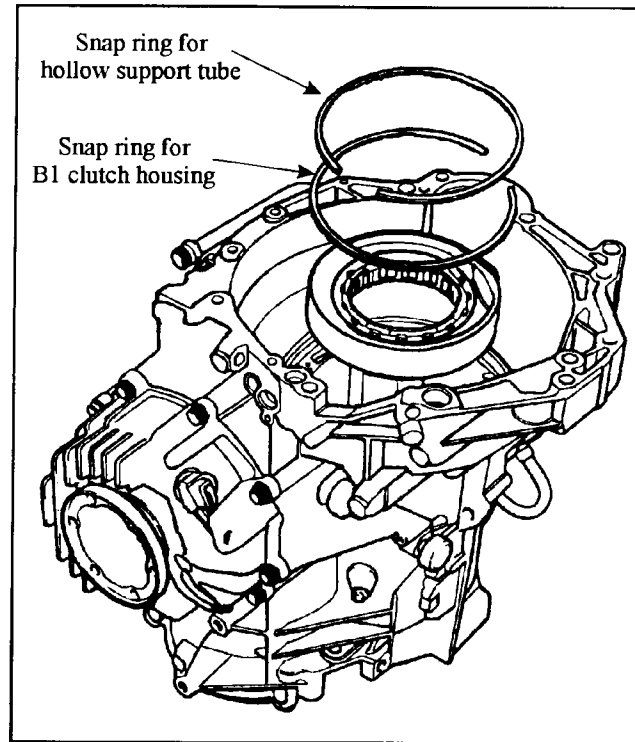

Figure 146
13. Install the low sprag also called the B1 clutch housing into the transmission lining up the lug on the sprag with the slot in the case (See Figure 146).